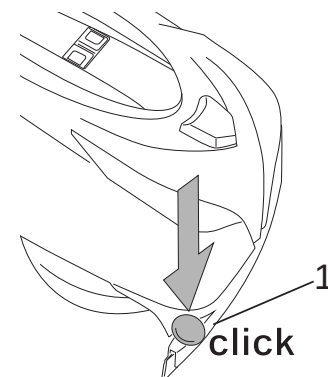

Fig.2B
- Instale la rueda paragolpes (Fig.2B-Ref.1).